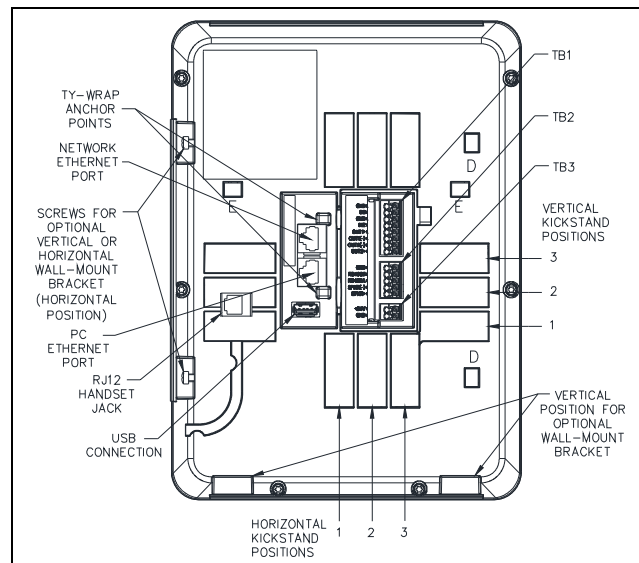

Figure 4. HUBBCOM Smart Controller—Rear View
5. Install the kickstand. The kickstand provides four positions in both orientations to suit the situation where it will be used (see Table 1 and Figure 4).
2. Insert one side of the kickstand with the flange properly oriented into the desired position in the rear cutout (see Figure 4).
5. Remove the two #8 × ½-inch mounting bracket screws from the bottom of the rear panel and set aside (see Figure 4).
7. With the proper orientation for the unit's configuration, angle the unit to hook it onto the top flange brackets (D-D or E-E, see Figure 4), then rotate and slide it downward until it rests on the mounting bracket.
7. Remove the two #8 × ½-inch mounting bracket screws from the bottom of the rear panel and set aside (see Figure 4).
9. With the proper orientation for the unit's configuration, angle the unit to hook it onto the top flange brackets (D-D or E-E, see Figure 4), then rotate and slide it downward until it rests on the mounting bracket.
HUBBCOM Smart Controllers are equipped with dual Ethernet ports. Use the port furthest from the USB port to connect to the Ethernet network. The port closest to the USB port can be used to connect a PC (see Figure 4).
2. (Optional) Plug an Ethernet cable from a PC into the remaining RJ45 jack(see Figure 4).